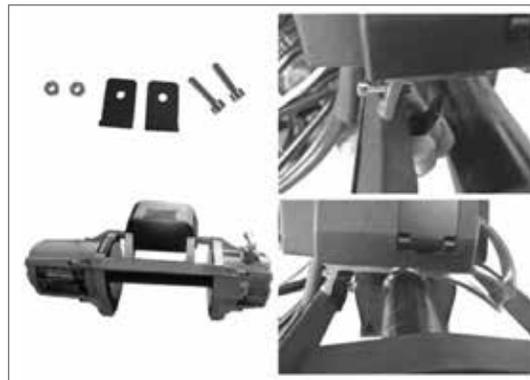

Fig. 1
1. Install two included aluminum brackets on bottom of control box by removing four nuts on bottom of box, then place brackets over bolts and secure brackets by re-installing nut. (Fig. 1) Note: hooks on brackets go toward front of winch.